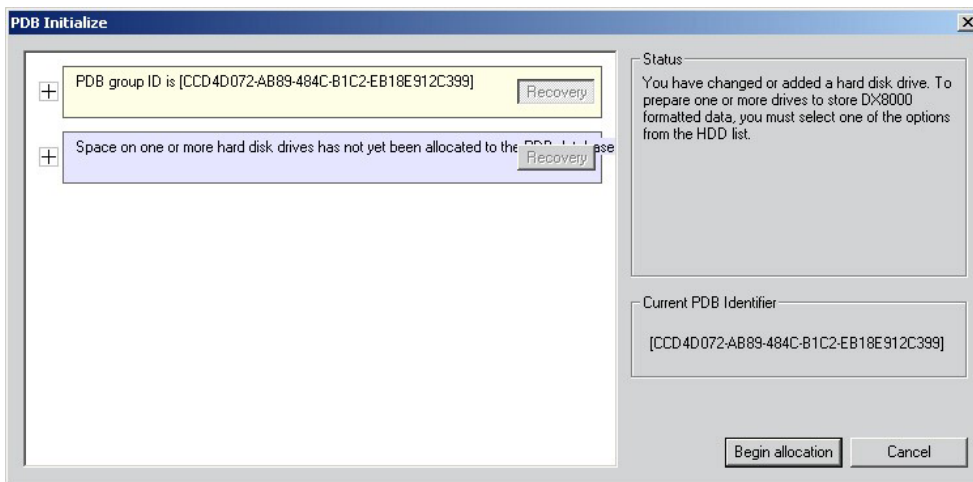

Figure 22. Opening List of Drives
- a. Click the plus (+) sign next to the *blue* box—the one that reads, “Space on one or more hard disk drives has not yet been allocated to the PDB database.” Refer to the Figure 22.